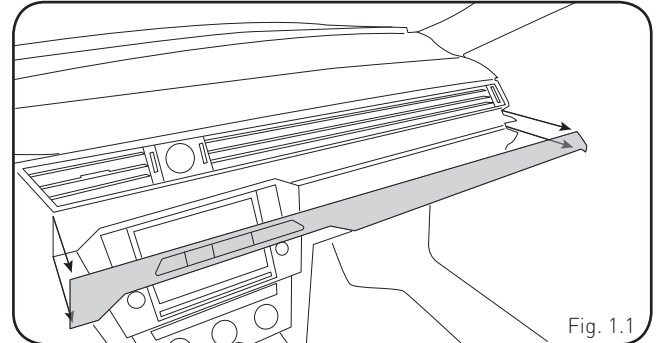

Fig. 1.1
1. Using a panel tool, carefully pry outward on the trim panel above glove box and remove. (Fig. 1.1)